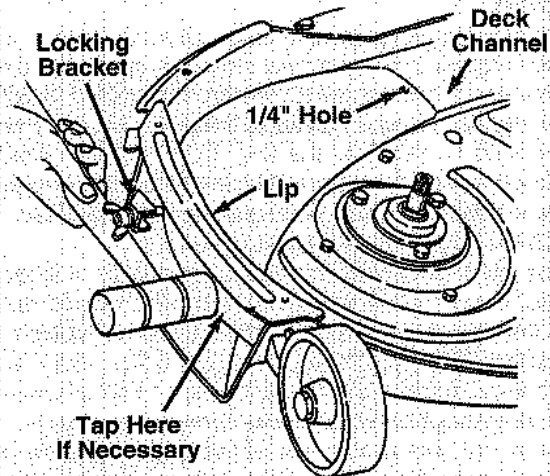

FIGURE 2.
- 9a. Lawn tractors which have the 1/4" hole in the top of the deck. Align the hole in the end of the baffle with the hole in the deck by inserting a screwdriver or thin pry bar through both of the holes, then prying the baffle to get it into position. Tapping the baffle assembly with a soft hammer or mallet in the location shown in figure 2 will help seat the baffle securely into the deck channel and aid in the alignment of the holes.
- 9b. Lawn tractors which do **NOT** have the 1/4" hole in the top of the deck. Tighten the wing nut at the locking bracket. Using a soft hammer or mallet, tap the baffle assembly a couple times in the location shown in figure 2 to seat the baffle securely in the deck channel. Drill a 1/4" diameter hole in the deck using the hole in the baffle as a guide. Secure the baffle to the deck in the same manner as instructed in section 9a.